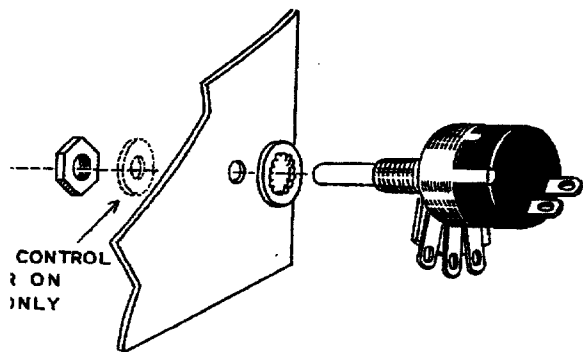

Figure 2. Control and switch mounting.
- () Mount a 1 megohm control in location E. Refer to Figure 2 for method of mounting controls and switches.